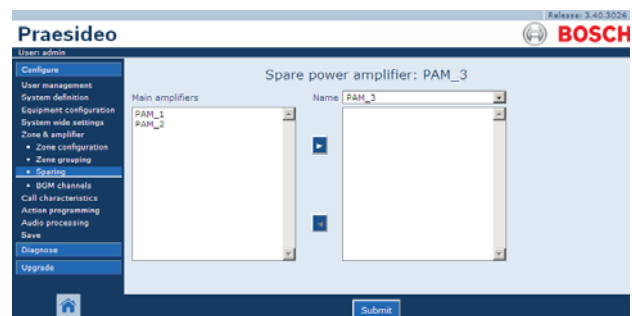

figure 45.12: Sparing, step 2
- 2 Select the spare amplifier to which the main amplifier must be assigned from the *Power Amplifier* dropdown list. For example, *PAM\_04* (see figure 45.12).